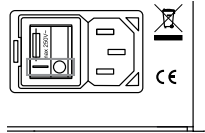
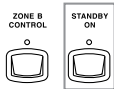

Figure 1
Figure 2
1. The MX160 has a Rear Panel Main Power rocker type switch. This switch removes all AC Power from the MX160 circuitry. It is useful to remove AC Power when the unit will not be used for an extended period of time, during lightning storms or AC Power outages. Referring to figure 1, the rocker switch is placed in the OFF  position when shipped from the factory. Place the Main Power rocker switch to the ON  position. The Front LED located above the STANDBY ON Push-button should now be illuminated. Refer to figure 2.